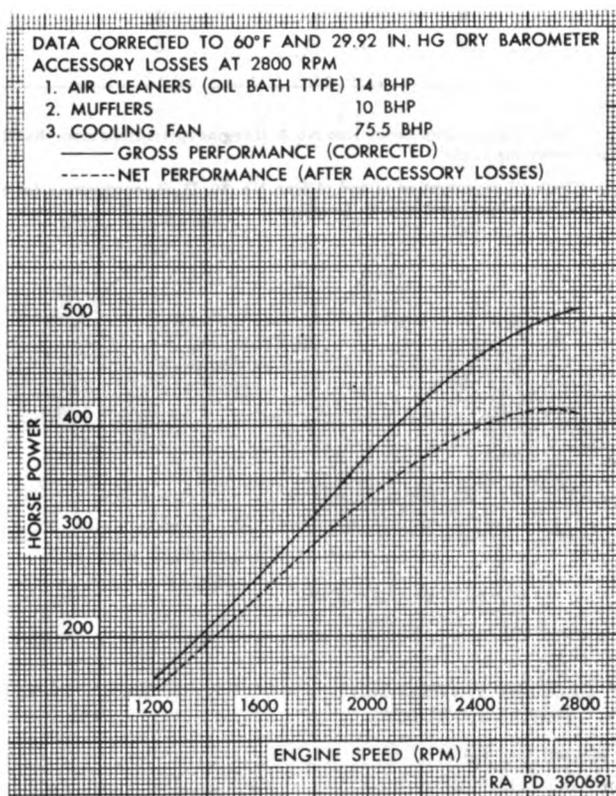

Figure 191. Typical performance curve for model AOSI-895-5 and AOSI-895-5M engines.
c. *Compute Brake Horsepower.* Compute observed brake horsepower for full throttle periods and correct to standard conditions as shown in TB 9-2800-200-50. The corrected (gross) brake horsepower during these periods should correspond to the performance curve shown in figure 191.